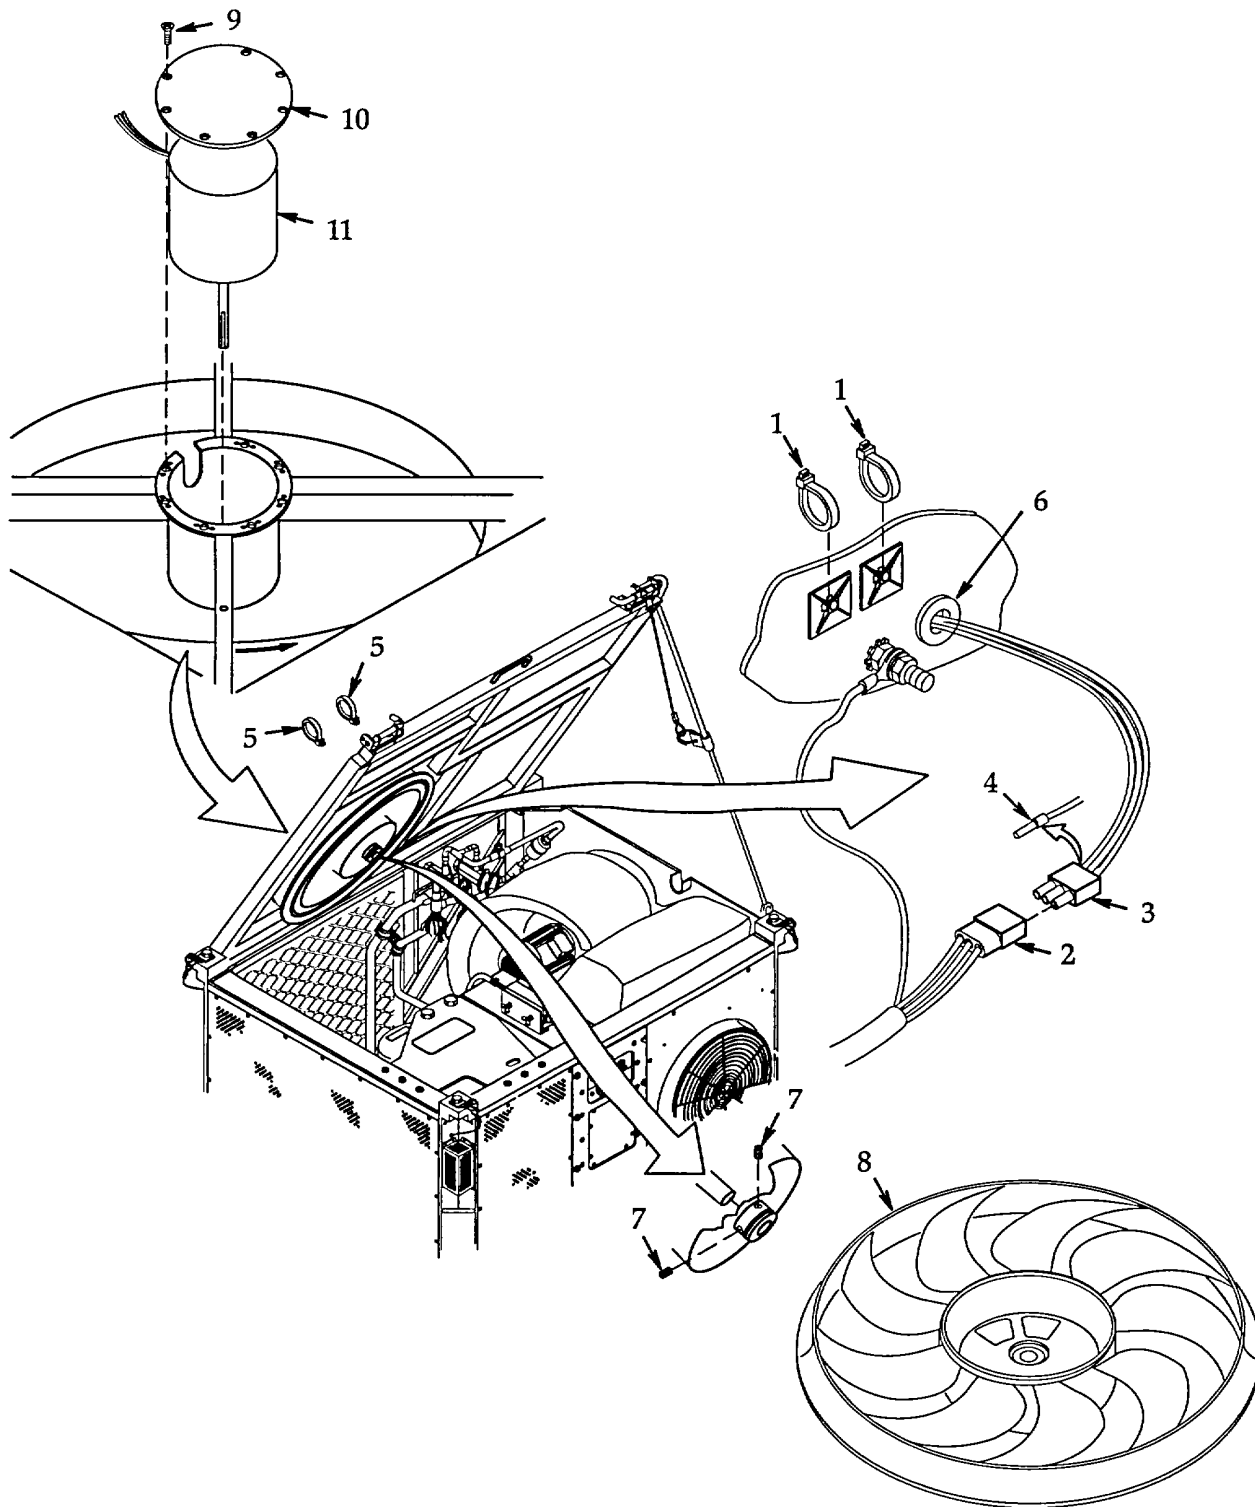

Figure 4-16. Outside Fan Motor.
- a. **Removal.** See figure 4-16.
b. **Installation.** See figure 4-16.
- (1) Install outside fan motor (11). Be sure to align cable connector with notch in cover.
- (2) Install retaining plate (10) and align mounting holes. Secure with seven screws (9).
- (3) Install outside fan (8). Align one setscrew (7) over flat on outside fan motor (11) shaft then tighten two setscrews.
- (4) Insert outside blower motor cable through grommet (6) then secure cable with two tiedown straps (5). Cut to remove excess tiedown strap material.